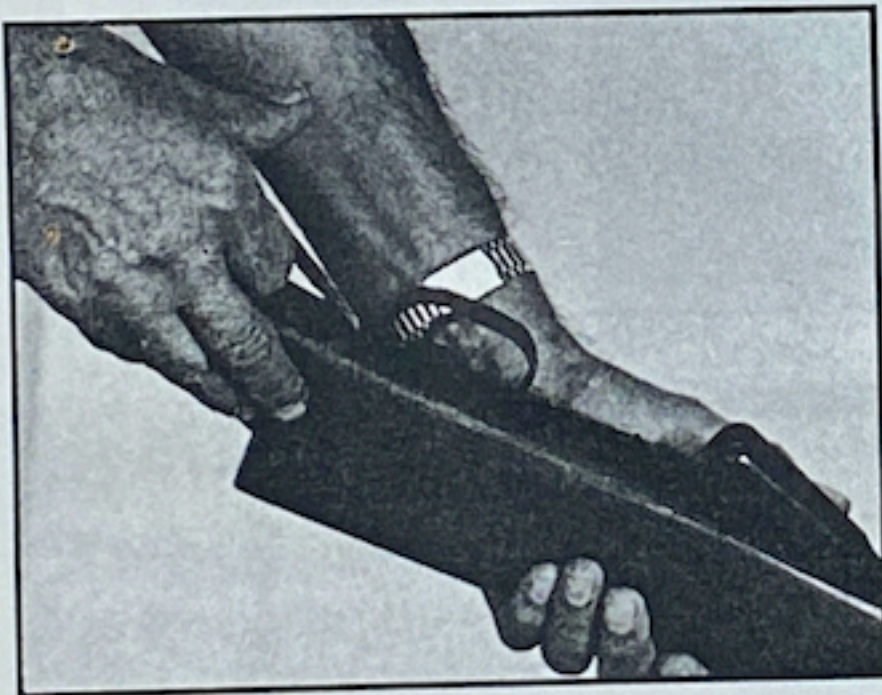

Figure 17
3. Use a pin punch to strike the trigger mechanism retaining button at rear of trigger bow. (Figure 17)